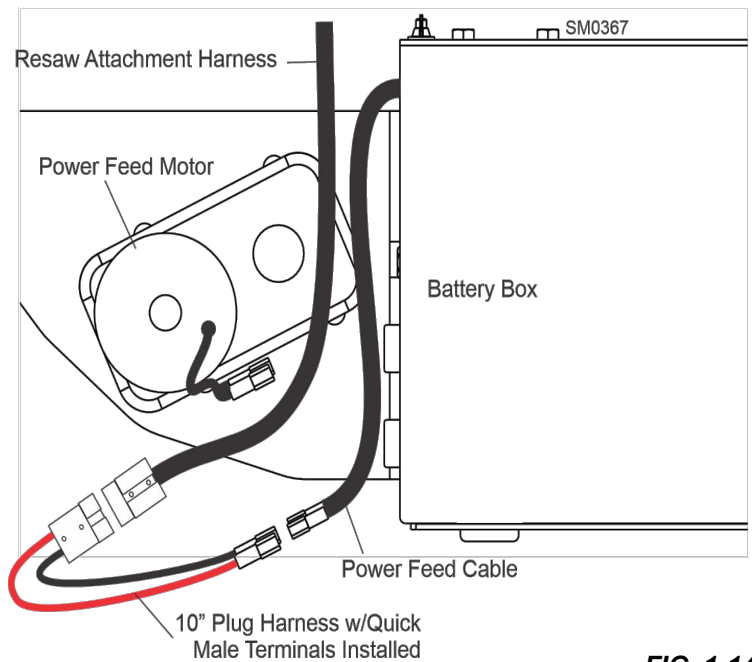

FIG. 1-14
3. Connect one end of the 10" plug harness to the power feed cable from the battery box. **See Fig. 1-14.**